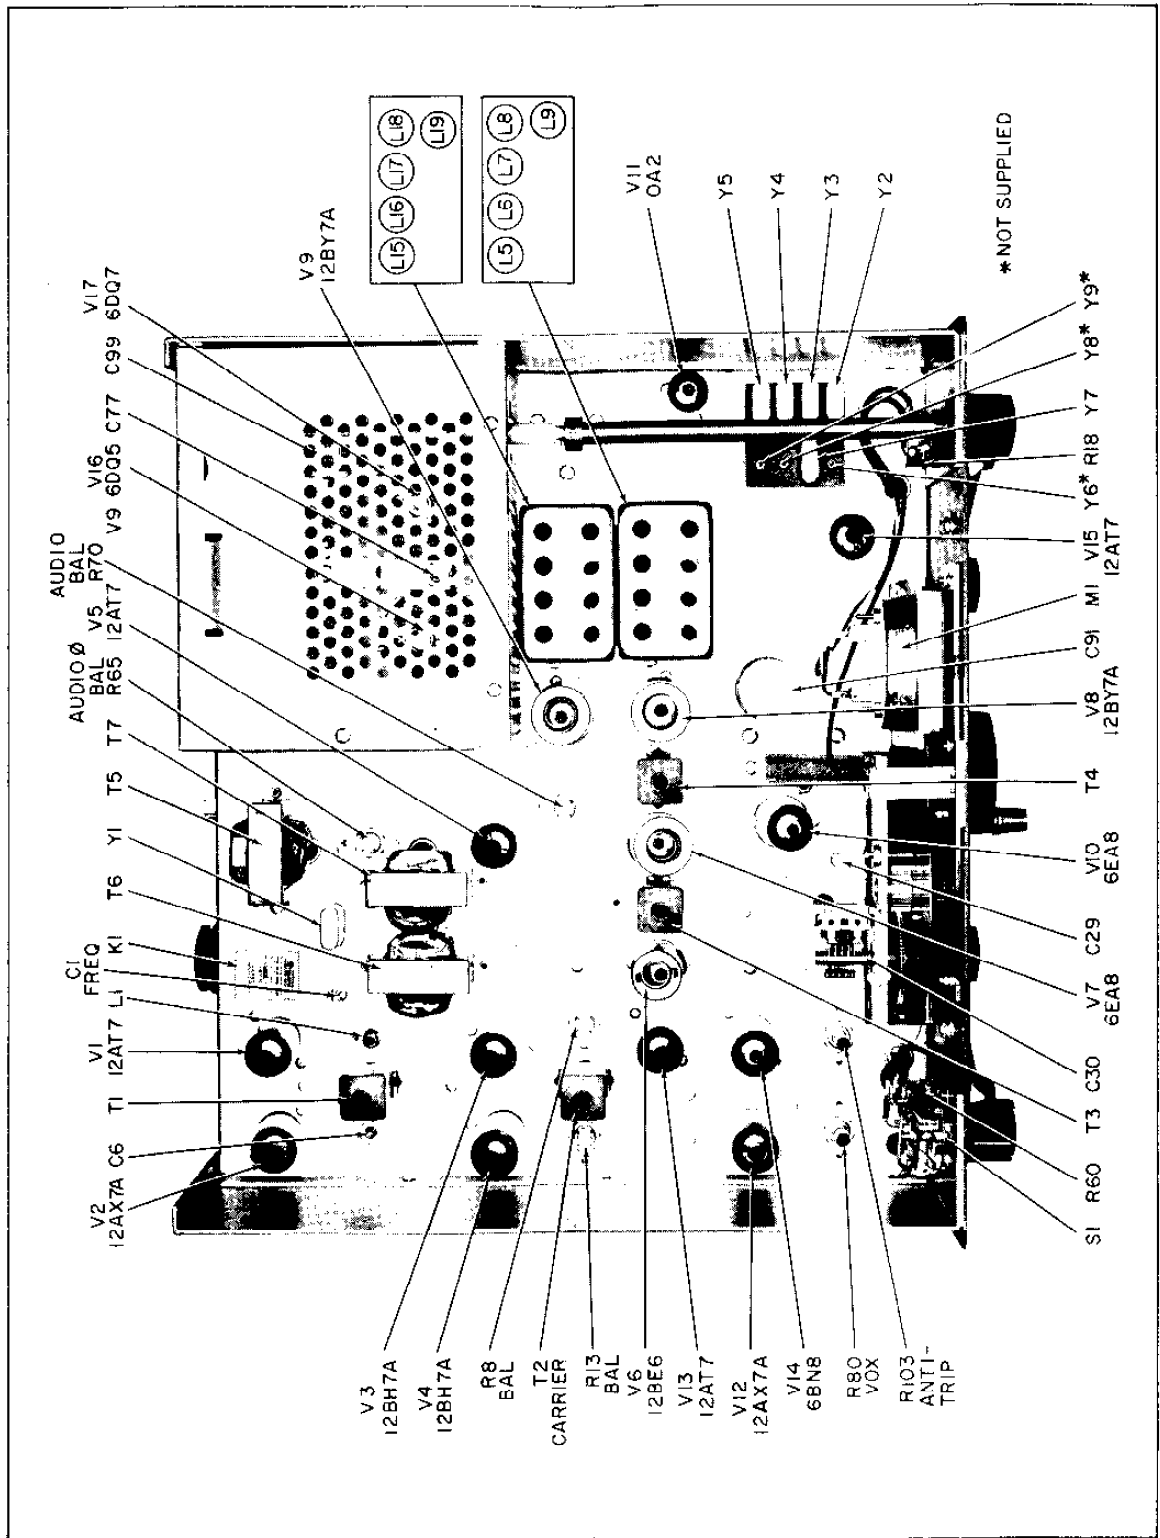
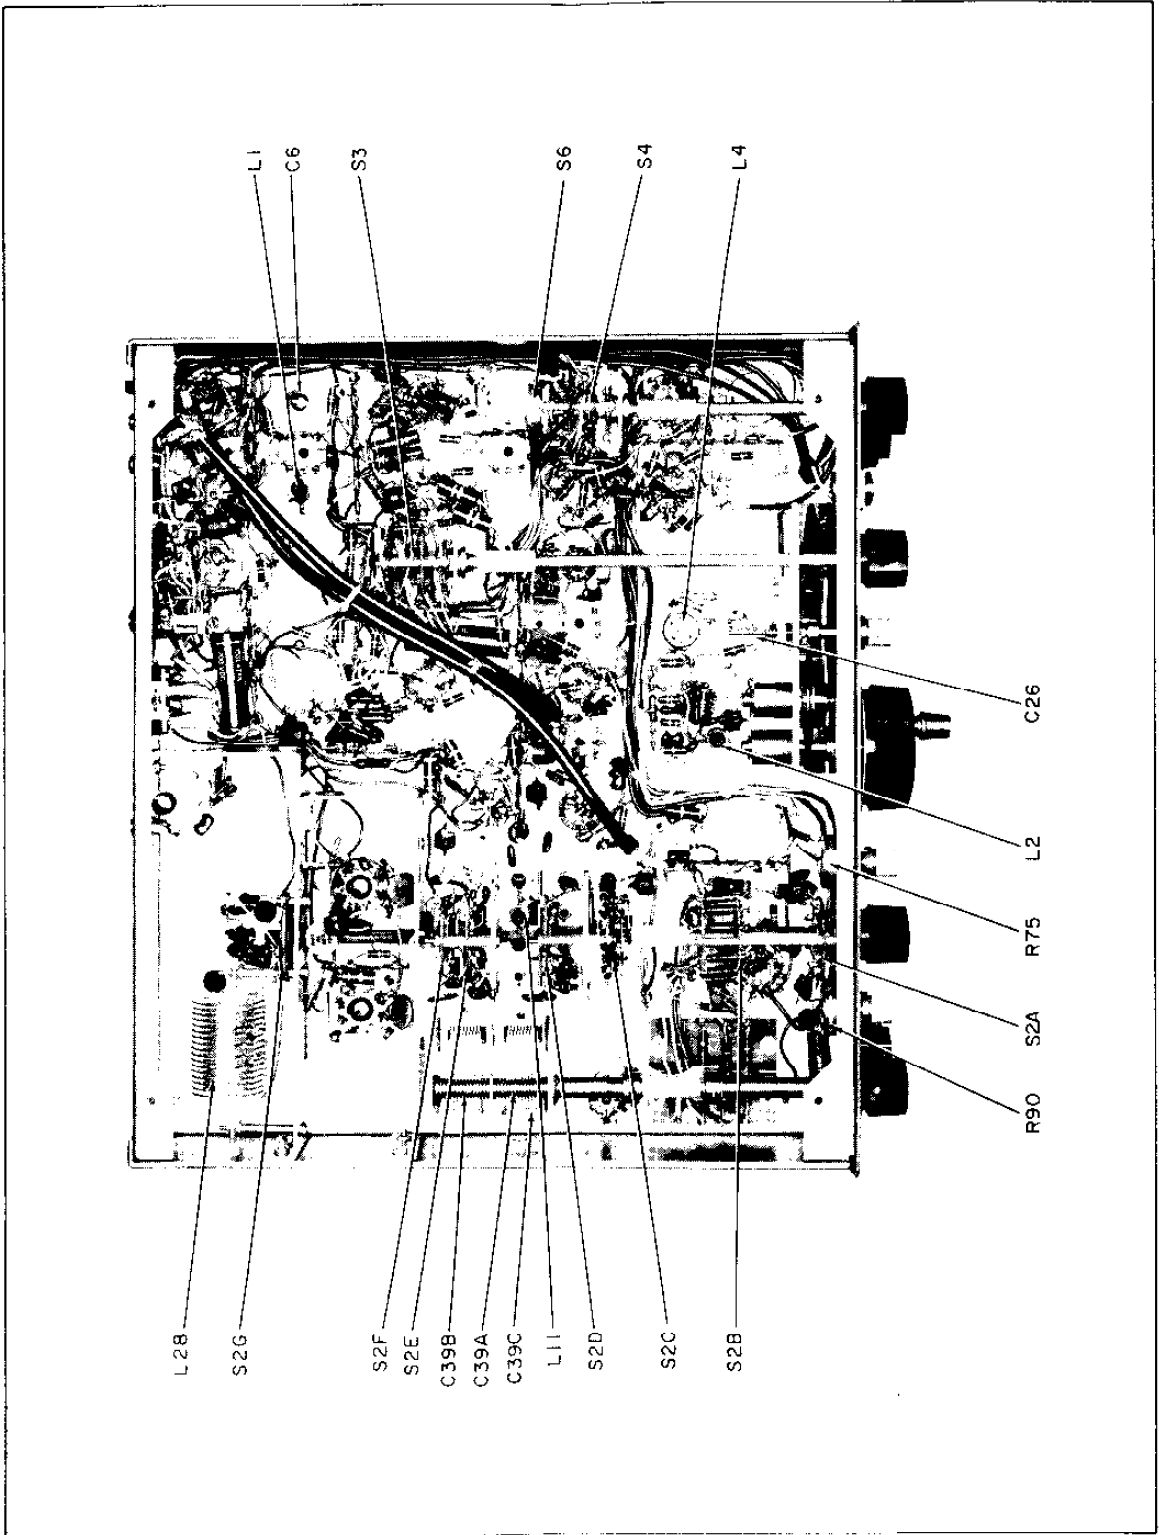

Figure 14. Top Chassis View Showing Component Locations.
Figure 15. Bottom Chassis View, Showing Components.
13. Carefully adjust warping trimmer C1 in the HT-44 for zero beat. This trimmer is located near the top, left, rear corner of the chassis. (See figure 14.)
Do not make any adjustments unless the operation of this transmitter is fully understood and adequate test equipment is available. Refer to figures 14 and 15, the top and bottom views of the transmitter, for the locations of all adjustments.
3. **10-Meter Alignment.** - Tune the Signal Generator to 28.0 MC. Set the FINAL TUNING control to the low end of the 10-meter segment (approximately 8 on the inner scale) and the DRIVER TUNING control also to the low end of the 10-meter segment (approximately 8 on the inner scale). Increase the signal generator output level until a small indication is noted on the HT-44 RF output meter. Tune the FINAL TUNING control for maximum output indication. Adjust the cores of coils L5 and L15 (see figure 14 for location) for maximum output, reducing the signal generator output level as required to keep the meter reading at half-scale or less. Set the signal generator to 29.7 MC. Set the FINAL TUNING control to the high end of the 10-meter segment (approximately 9-1/2 on the inner scale) and set the DRIVER TUNING control to the high end of the 10-meter segment (approximately 9-1/2 on the inner scale). Adjust trimmer capacitor (C39C) located on the side of C39A (see figure 15) for maximum output while slightly rocking the DRIVER TUNING control. Return the signal generator to 28.0 MC and repeat the above alignment until tracking is accomplished. (NOTE: Trimmer C39C should not be readjusted on the other bands.)
4. **15-Meter Alignment.** - Tune the signal generator to 21.0 MC and set the FINAL TUNING control to the low end of the 15-meter segment (approximately 7-1/2 on inner scale). Set the DRIVER TUNING to the low end of the 15-meter segment (approximately 7 on the inner scale). Increase the signal generator output level until a small indication is noted on the RF output meter and adjust the FINAL TUNING control for maximum output, reducing the signal generator output level as required to keep the meter at half-scale or less. Adjust the cores of coils L6 and L16 (see figure 14 for location) for maximum output, reducing the signal generator output as required to keep the meter at half-scale or less.
7. 6.5-MC Trap Adjustment. - While on the 40-meter band, set the signal generator to 7.0 MC and adjust the FINAL TUNING and DRIVER TUNING controls for maximum output. Without changing the FINAL TUNING or DRIVER TUNING, reset the signal generator to 6.5 MC and increase the signal generator output level until a small indication is noted on the RF output meter. Adjust the 6.5-MC trap core, L11 (see figure 15 for location) for minimum output, increasing the signal generator output as required. A slight readjustment of L8 may be required after this adjustment.
Proceed as follows: Set the CAL. ADJ. trimmer to mid-range (dot up). Set the OPERATION switch to CAL. Set the BAND SELECTOR to 3.5 MC (80-meter). Tune the receiver to 3.5 MC on the 100-KC marker signal (BFO off). Set the HT-44 TUNING CONTROL (dial) to the red 500 (3.5 MC). Carefully adjust trimmer C29 for zero beat (see figure 14 for location).
If the dial error progressively increases in the same direction with the high-frequency end running out more than 3000 CPS, at this end, both L4 and C29 should be adjusted. Proceed as follows: Set the TUNING dial to 4.0 MC (red 1000) and the Receiver to 4.0 MC. Adjust the slug of L4 (see figure 15 for location) to zero beat. Set the TUNING dial to 3.5 MC (red 500), the receiver to 3.5 MC, and adjust C29 for zero beat. Repeat the adjustments at 4.0 MC and 3.5 MC until both points are on frequency.
Remove V15 (12AT7) from its socket to disable the heterodyne oscillator signal. Connect the probe of the RF voltmeter to the grid of the Second Mixer (pin 2 of V8). Set the FUNCTION switch to CW and the OPERATION switch to MOX. Set the BAND SELECTOR to any 10-meter segment. Set the TUNING control dial to 250 and advance the RF LEVEL control until a small indication is noted on the RF voltmeter. Adjust the core of the VFO output coil (L2, See figure 15) for maximum reading. Set the TUNING control to 450 on the dial. Advance the RF LEVEL control until approximately 0.5 volt RMS is indicated on the RF voltmeter (HP 410 B or equal). Adjust top and bottom cores of IF transformers T3 and T4 for maximum voltmeter indication, keeping the level below 1 volt to prevent overload and false settings. After the transformers have been adjusted as described, increase the RF LEVEL control until 1 volt is indicated on the voltmeter. Tune the VFO (TUNING) across its range (0 to 500) while watching the voltmeter. The voltmeter should read between 0.8 and 1.0 volt over the entire range of the dial (0 to 500). After completion of this alignment, be certain to replace V15 (12AT7) in its socket.
Adjust the RF LEVEL control for about 60 volts RMS output (60 on the HT-44 RF output meter). Carefully tune the FINAL TUNING control and observe the plate current dip and the output voltage peak. If both occur at the same setting, the amplifier is neutralized. If both do not occur together, adjust the neutralizing capacitor, C77 (see figure 14), in small increments (1/4 to 1/2 turn) until neutralization is accomplished.
When the HT-44 is used as an independent transmitter/exciter, there is normally no need for adjustment of the carrier frequency trimmer C1 (see figure 14 for location). However, when the HT-44 is to be used in conjunction with an SX-117 receiver as a transceiver, the carrier frequency trimmer C1 must be set correctly. For this procedure, see Section VII, TRANSCIVE (SLAVE) OPERATION.